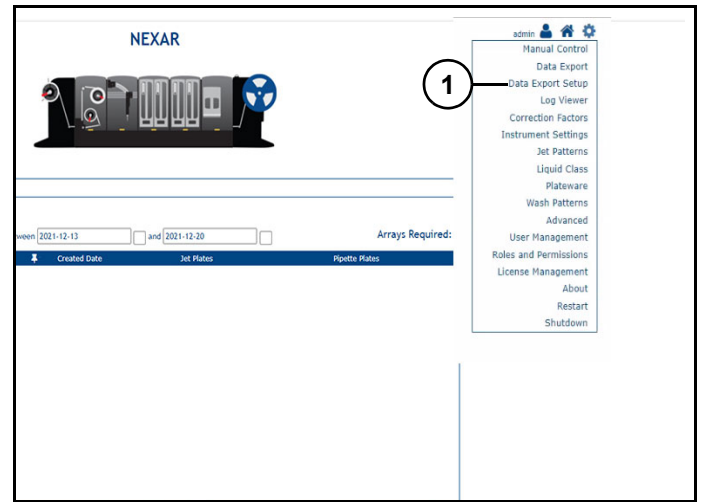

Figure 12
Data Export Setup (1) (Figure 12): Opens data export setup page.